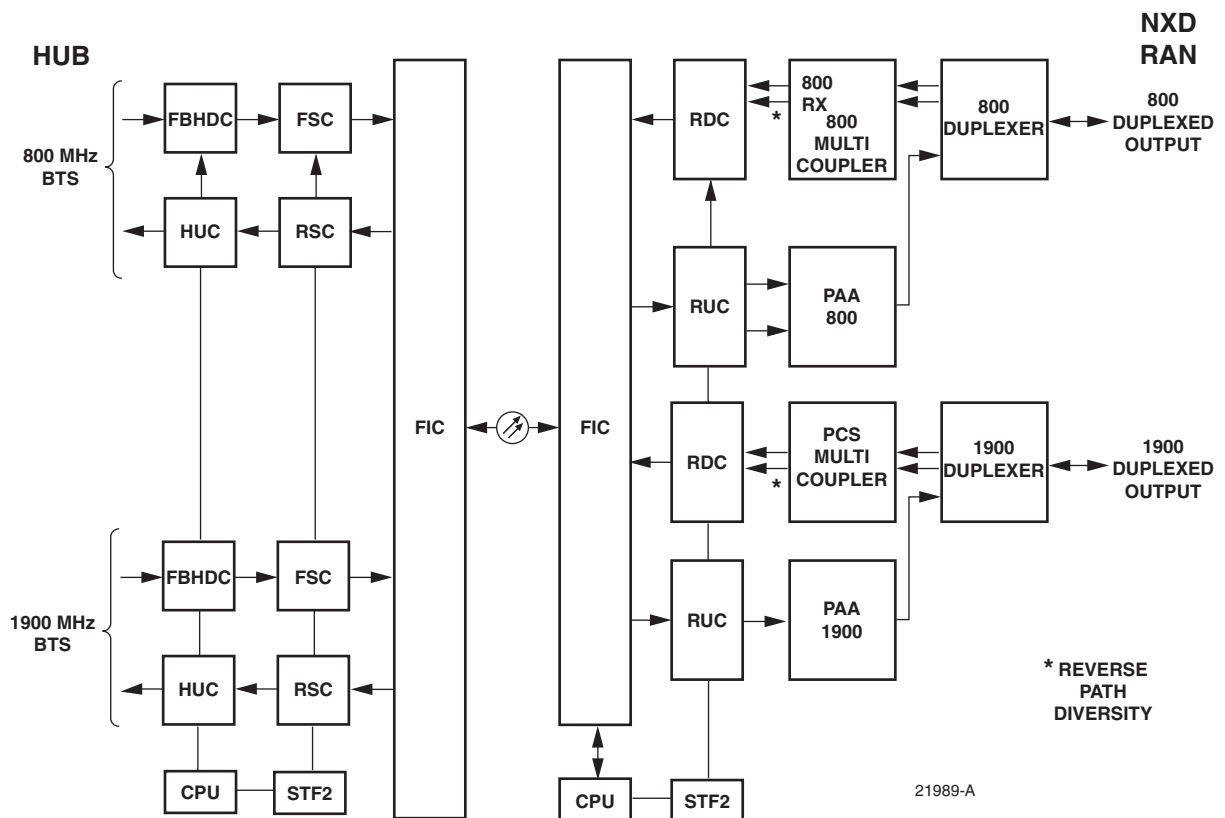

Figure 3. Digivance NXD System Block Diagram (Three Bands Shown)
- In the forward path, the Full Band Hub Down Converter (FBHDC) receives RF signals from the BTS and down converts the signals to Intermediate Frequency (IF). The Forward Simulcast Card (FSC) digitizes the IF signals and passes digital IF (DIF) signals into the Fiber Interface Controller (FIC). The FIC converts the DIF signals to digital optical signals for transport to the RAN. At the RAN, a similar process occurs whereby the optical signals are converted to RF signals using a RAN Up Converter (RUC). The signals pass through a PAA or RFA and then are combined with other RF signals (using a combination of diplexers or triplexers) and fed into a multi-band antenna.
- In the reverse path, the antenna receives RF signals from a mobile and sends those signals through a multicoupler to the RAN Down Converter (RDC) which down converts the RF back to IF and digitizes the signals. The DIF signals are passed to the FIC, which sends digital optical signals from the RAN to the HUB FIC. The Hub FIC combines that DIF signals with DIF signals from other RANs that are in that simulcast cluster through the Reverse Simulcast Card (RSC). The Hub Up Converter (HUC) takes the RSC output and converts the digital optical signals back to RF signals for the BTS. As shown in Figure 3, the NXD system has a reverse path diplexer and a reverse path diversity signal. Reverse path diversity is an option in the CXD system.